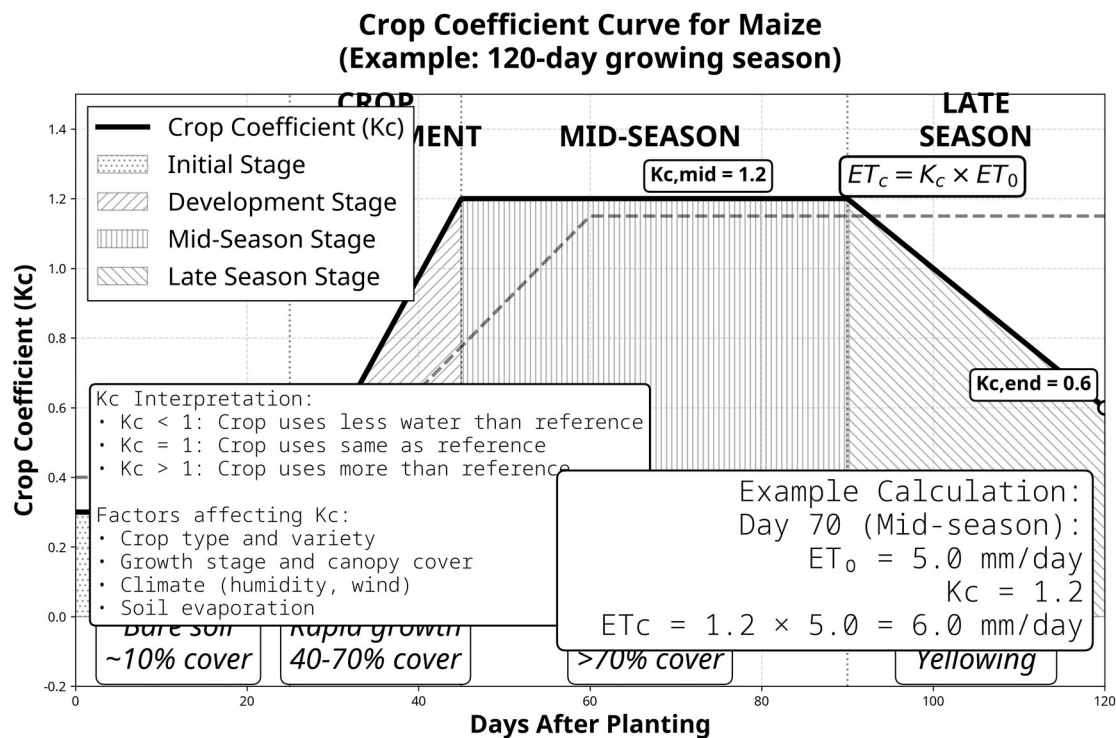

Figure 2.2: Crop Coefficient Curve
**Figure 2.2:** Crop coefficient ( $K_c$ ) curve for maize showing variation through growth stages: initial (low canopy cover), development (rapid growth), mid-season (full canopy), and late season (senescence). The curve shape is typical for annual crops.